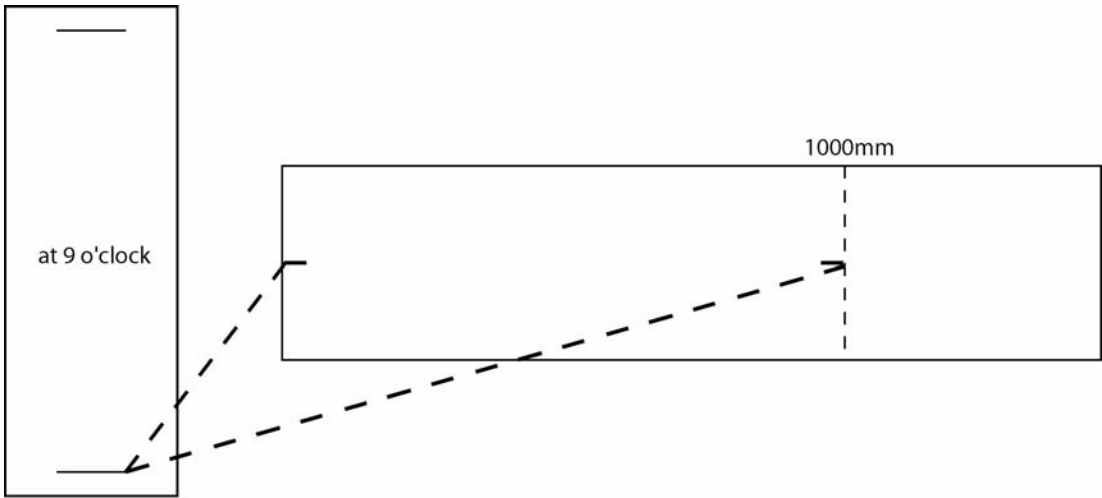

Figure 1-40 Second Cradle/Table Parallel Check
- 5.) Repeat Step 2 and Step 3 (see Figure 1-40).